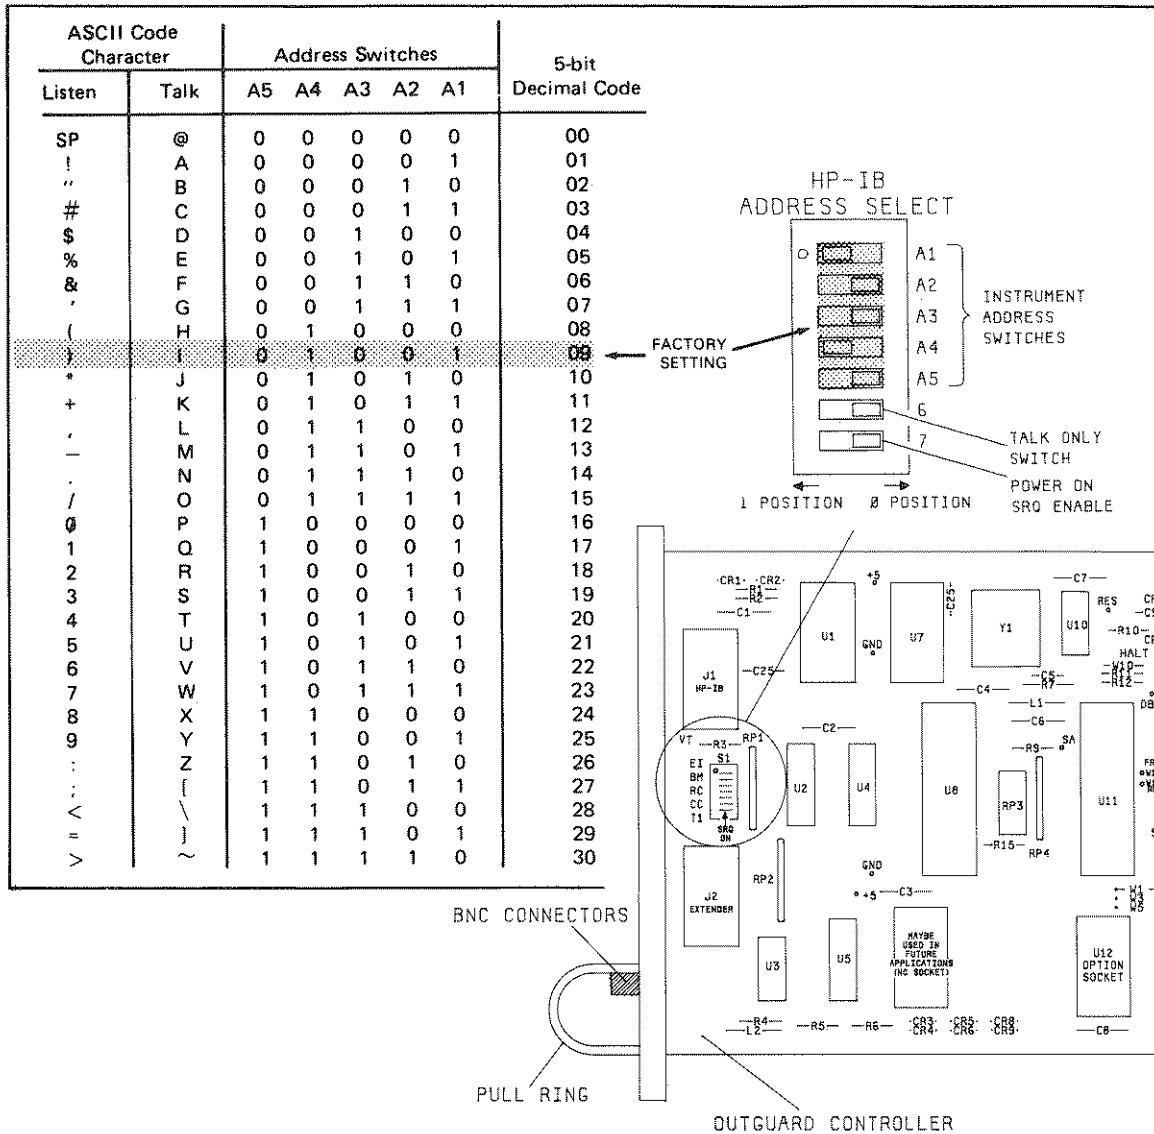

Figure 69. HB-IB Address Selection
The 3497A is factory preset to address setting of decimal "09" which corresponds to ASCII listen address of "(" and talk address of "I". The 3497A may be left at its factory setting or may be changed to alternate address setting as shown in Figure 69.
To change the address of the 3497A from 09 to another value, it is necessary to remove the Outguard Controller Board. To do this, refer to Figures 69 and 70 and the following steps.
* From Figure 69, locate the HP-IB ADDRESS SELECT switch and set switches A1 through A5 for address required. For example, to set decimal address 10 (ASCII * and J), set A5, A3 and A1 to the "0" position and set A4 and A2 to the "1" position.
Position 6 of the HP-IB ADDRESS SELECT switch is the TALK ONLY switch (see Figure 69). When the TALK ONLY switch is placed in the "1" position, the 3497A cannot be controlled from a controller and commands must be entered from the front panel.
If you want the 3497A to send a Service Request (SRQ) to the controller at power on, set the POWER ON SRQ ENABLE switch (position 7 on the HP-IB ADDRESS SELECT switch - see Figure 69) to the "1" position. As factory set, the POWER ON SRQ function is disabled (switch position 7 set to "0").